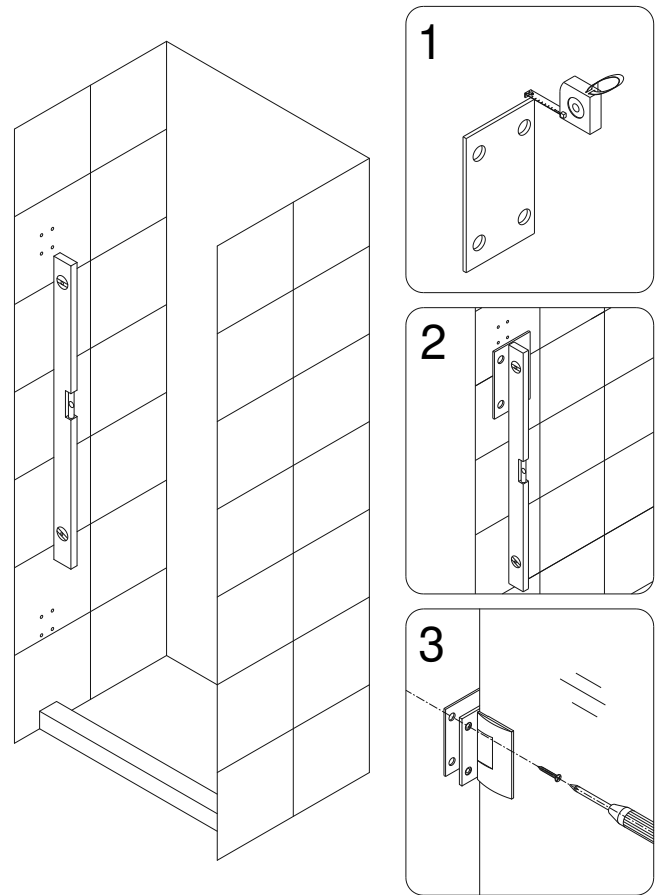

Fig. 4
3. Hold the door in place and mark the drill holes for both **Hinges (05)** on the wall. Set the door aside and drill the holes in the wall using  $\varnothing 1/4"$  drill bit.
**The included PVC hinge spacers (31) are provided to compensate for minor out-of-plumb wall conditions. Use only as needed as their use could compromise the opening size of your shower. Please see Fig 4 for an installation example.**
See Fig. 3 and Fig. 4 for details.